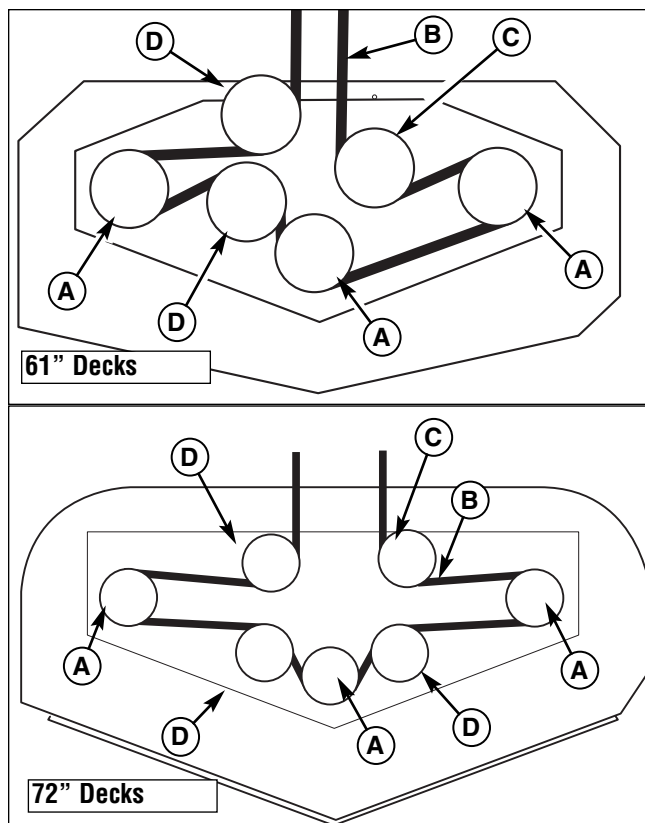

Figure 43. Mower PTO Belt Routing
4. Slide the drive belt over the edge of the stationary idler pulley (B). Carefully release the tension on the breaker bar or the combination wrench.
5. Remove the old belt and replace with a new one. Make sure the V-side of the belt runs in the pulley grooves (Figure 43).